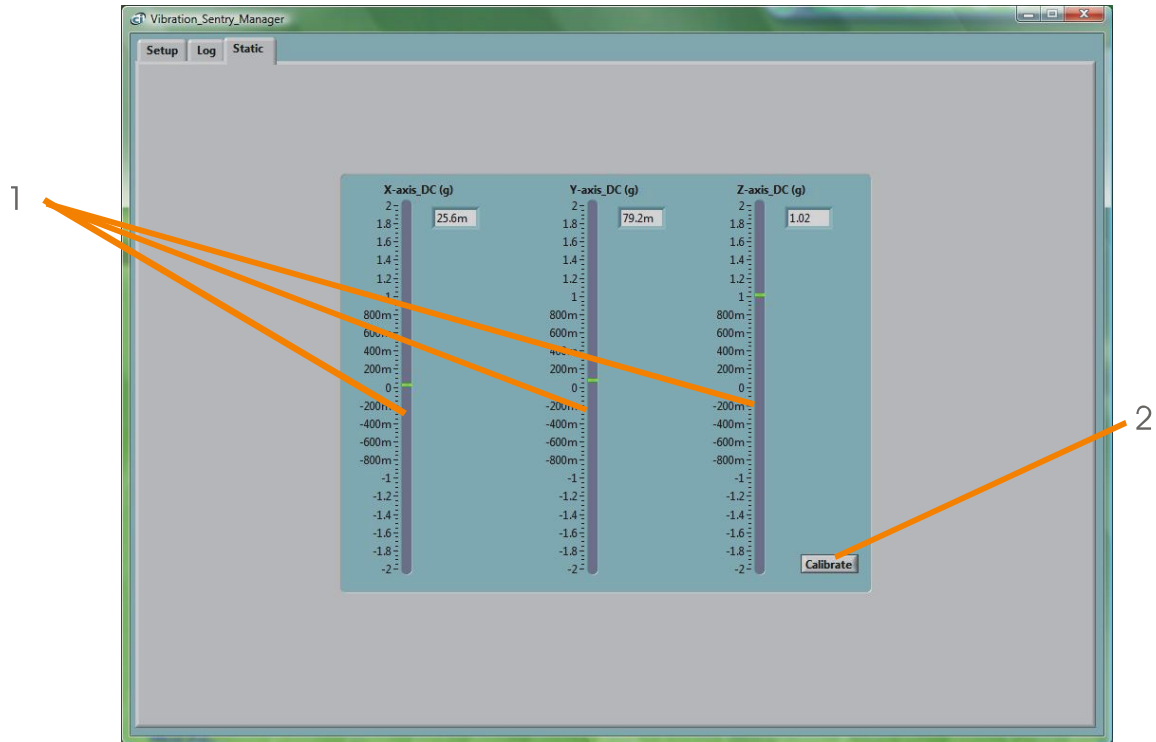

Figure 7: Vibration Sentry Manager Static tab
- **The *Static Tab*:** Is used to read and display the static accelerations along the three axes and launch the calibration procedure (see figure 7).